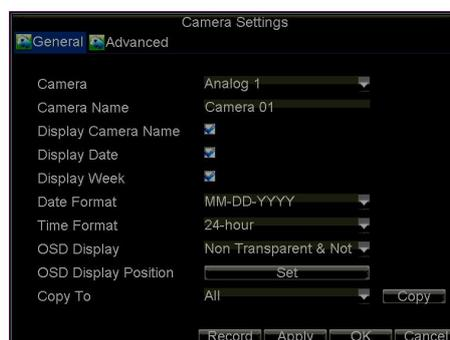

Figure 14. Camera Management Menu
1. Click Menu > Settings > Camera to enter Camera Settings menu, shown in Figure 14.